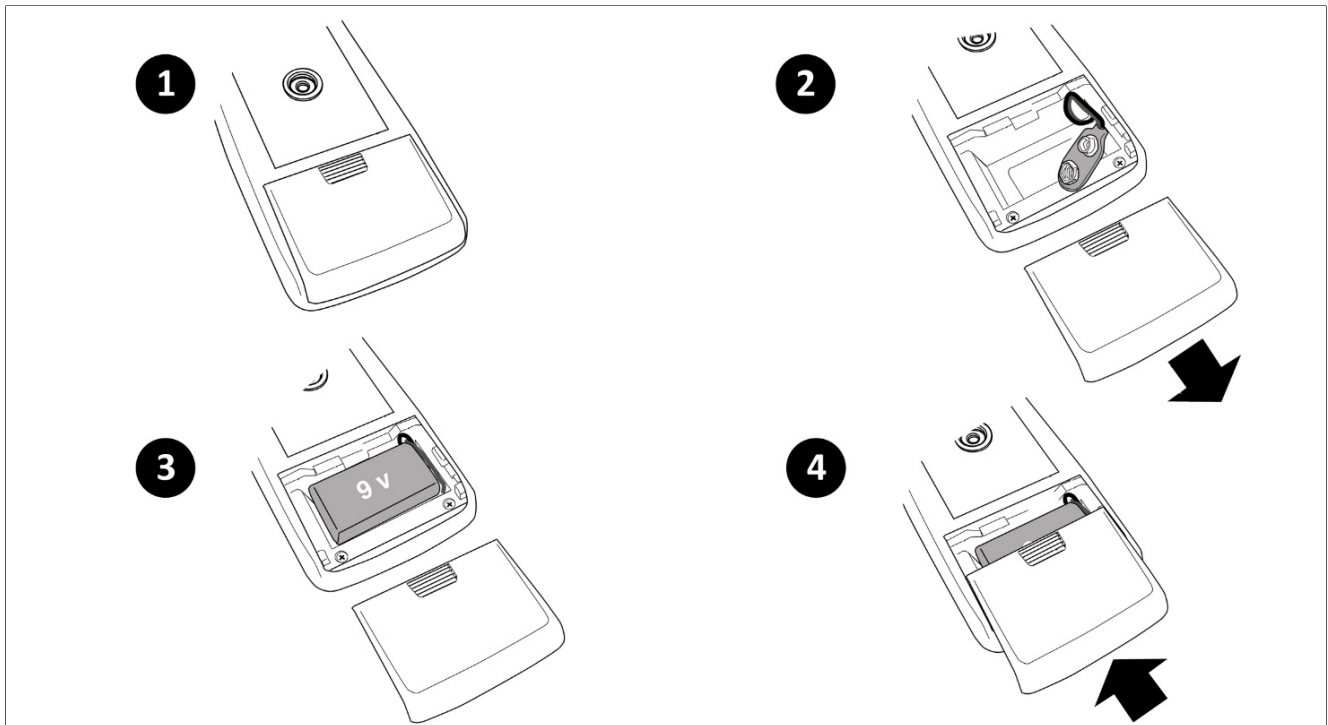

Figure 6. Battery Replacement (PCS-730B)
The PCS-730B uses one (1) 9 VDC alkaline battery (included), which provides an approximate life of a minimum of 28 hours of continuous use (approximately 20,000 charges of either polarity). To install or replace the battery, follow this procedure (Figure 6):